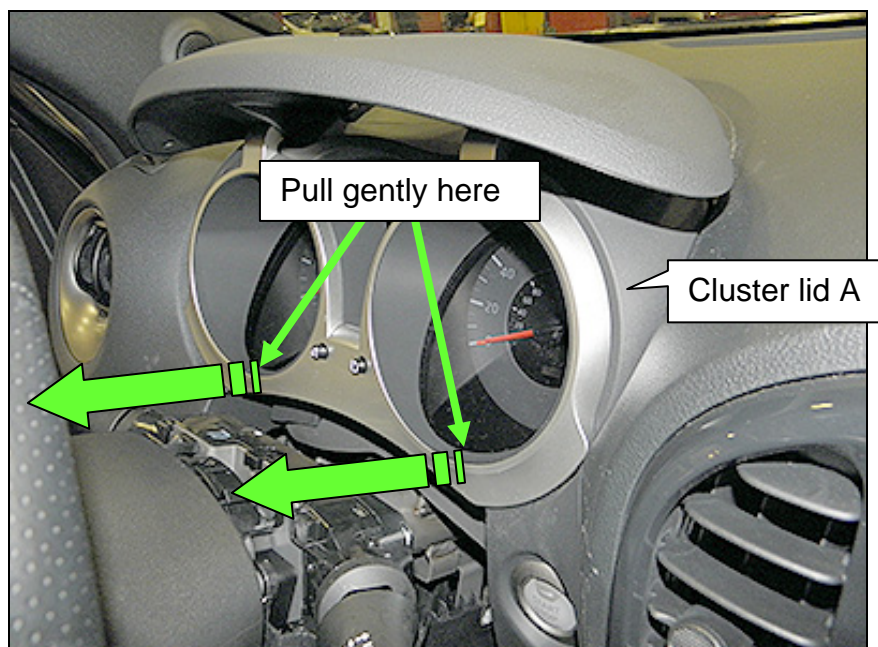

Figure J5
4. Carefully separate cluster lid A from the instrument panel (8 clips) by pulling gently with equal force on the lower bezel (see Figure J5).